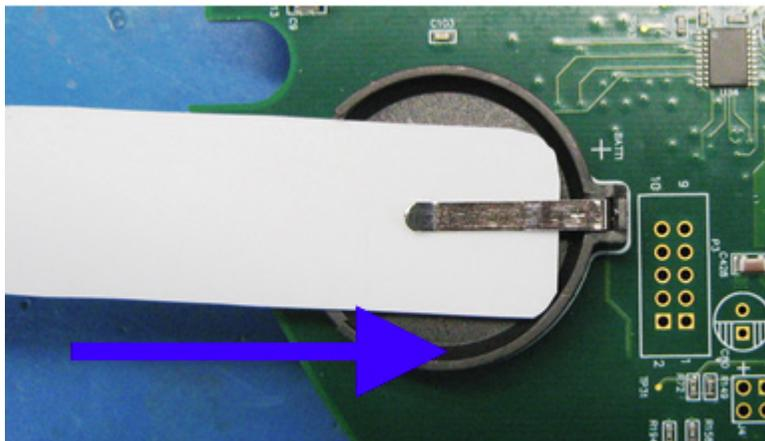

Figure 3.13: Placement of Battery Insertion Tool
11. Slide the battery insertion tool between the positive (+) tab and the negative tab (NEG) of the battery holder. See Figure 3.13.